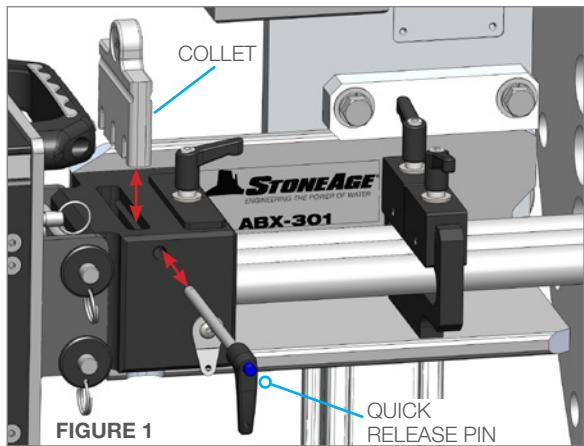

FIGURE 1
1. Remove Quick Release Pin and pull out existing Collet. Select the appropriate Collet size for the diameter of the hoses. (See the "Recommended Collets For Common Hose Sizes" plaque on the top plate of the AUTOBOX® (ABX-3L-V2) Hose Tractor.) (**Figure 1**)